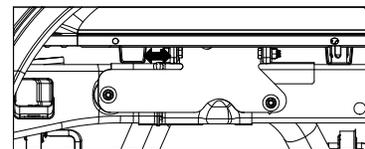

Figure D1: Driver side of truck frame inside the wheel well.
2. **Square the hitch.** With a tape measure, check the distance between the Turnoverball hitch and the nearest bed cross member. The distance between the hitch and the cross member should be consistent on the passenger side and the driver side of the hitch, see Figure D1. Adjust hitch until the hitch and the bed cross member are the same from side to side.